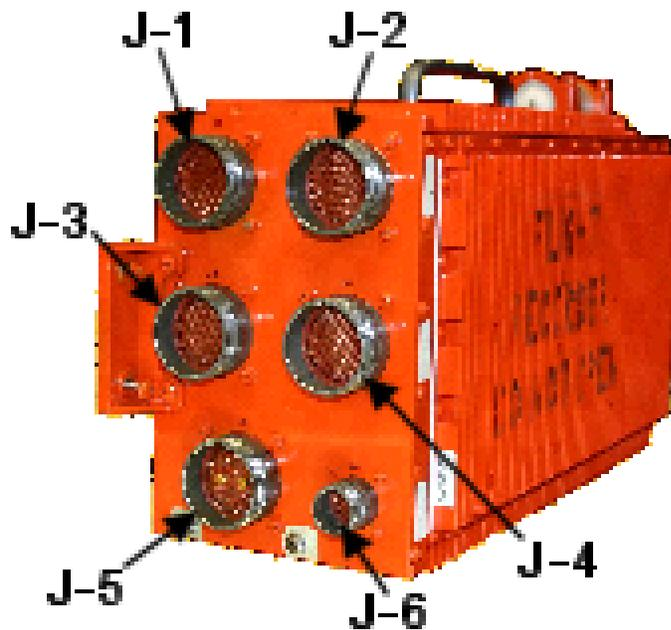

Figure 2. IVHMU Connector Identification
- (1) Gain access to the IVHMU.
- (2) Disconnect the IVHMS cable connector from the J-5 connector on the IVHMU (**Figure 2**).
- (3) Using IVHMU Programming Cable P/N 51179-0102:
- (4) Apply AC power to the aircraft.
- (1) Using IVHMU Programming Cable P/N 51179-0102:
- (a) Connect the P-5 connector to the J-5 connector on the IVHMU (**Figure 2**).
- (2) Turn the 28V power supply **ON**. Ensure 28V is applied to the IVHMU.